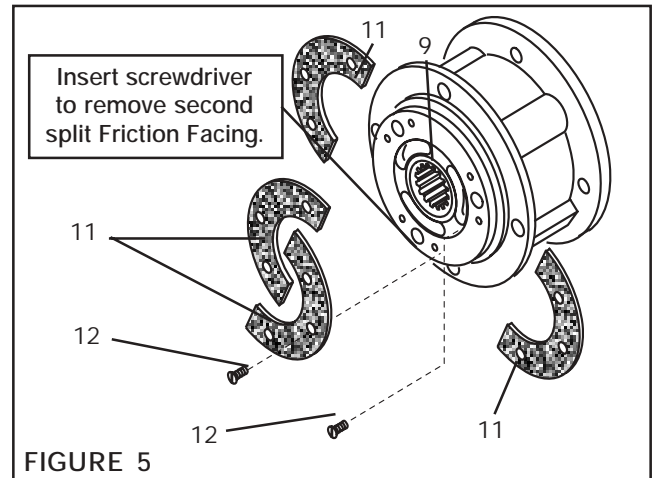

FIGURE 5
2. Remove the six old Flat Head Screws (Item 12) and the first old split Friction Facing (Item 11) (See Figure 5).
3. Align the holes in the Splined Disc (Item 9) with the Flat Head Screws (Item 12) that secure the second split Friction Facing (Item 11) (See Figure 5).
4. Remove the six old Flat Head Screws (Item 12) and the second old Friction Facing (Item 11) (See Figure 5).
5. Install the first new split Friction Facing (Item 11) and new Flat Head Screws (Item 12) (See Figure 5).
7. Install the second new split Friction Facing (Item 11) and new Flat Head Screws (Item 12) (See Figure 5).